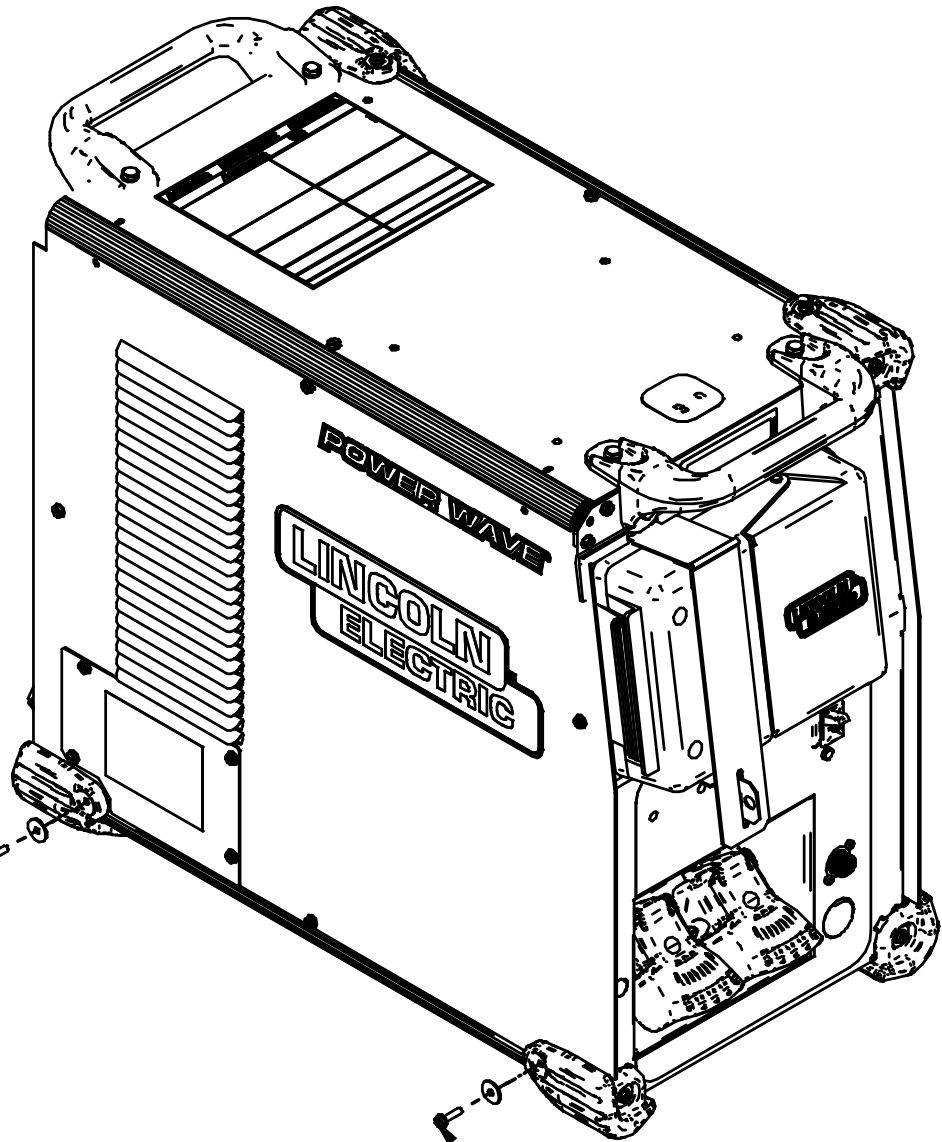

FIGURE 7
10. Install the bottom left Corner Caps using the hardware removed from mounting the corner caps in Step 5, using a 5/16" nut driver or other suitable tool (**Figure 7**).
9. With locking clamp positioned behind the assembly, install the Power Wave Connectivity Hub to the Case Front using the hardware removed from cover plate in Step 3, using a 5/16" nut driver or other suitable tool (**Figure 7**).